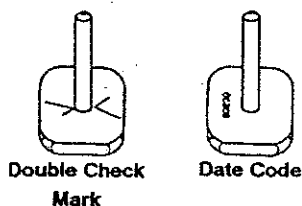

Figure 4. Good H.P. Seats
2. Seats marked with double hand-etched check marks or 5 digit date codes need not be replaced and can continue in service. See Figure 4.